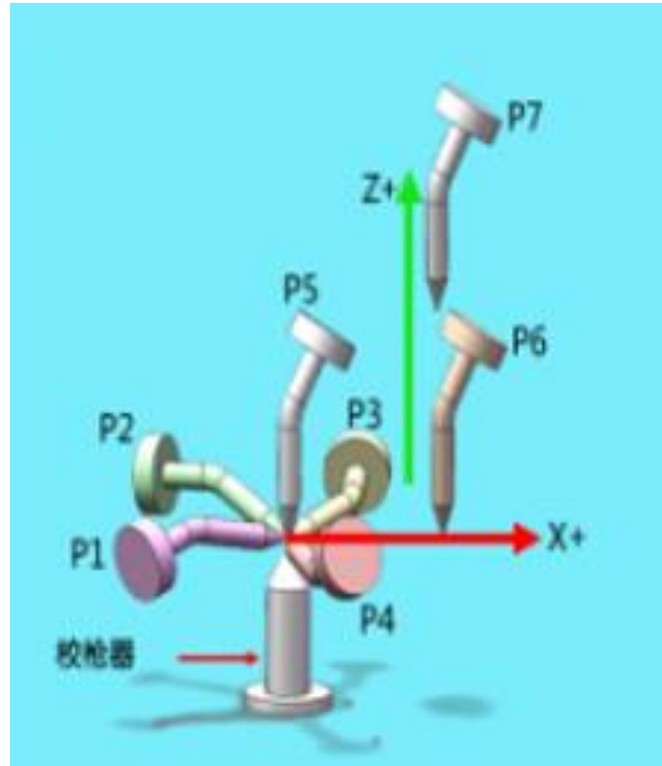

Fig. 2.12 7P Setting of Tool Coordinate Poses
The 7P method is adopted to set the tool coordinate poses as shown in Fig. 2.12. The control poses P1 - P5 should always contact with the sharp points of the calibrator and the poses of P1 - P4 should be as different as possible. When teaching P5, the end of the tool must be linear with the calibrator. P6 is used to determine the direction of tool coordinate X and P7 to determine the direction of tool coordinate Z. During teaching, P7 can move a distance towards tool coordinate Z based on P6.
4. Teach 7 poses in sequence according to the requirements of Fig. 2.12.
4P setting steps: Enter the tool coordinate system setting interface, select the 4P method and teach P1-P4 in Fig. 2.12 according to the pose requirements. Please refer to the 7P method for specific operating steps.